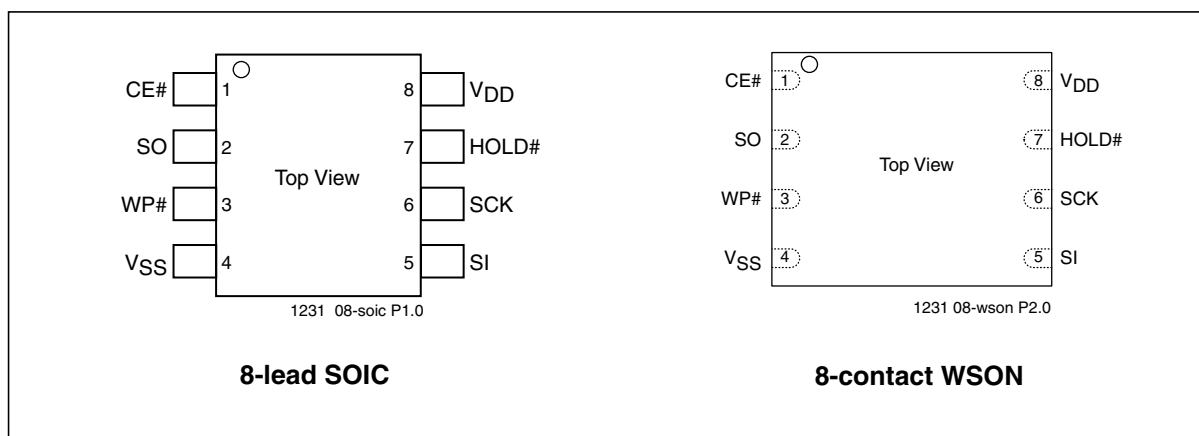

Figure 2: Pin Assignments
The SST25VF020 device is offered in an 8-lead SOIC 150 mil body width (SA) package, and in an 8-contact WSON package. See Figure 2 for the pin assignments.